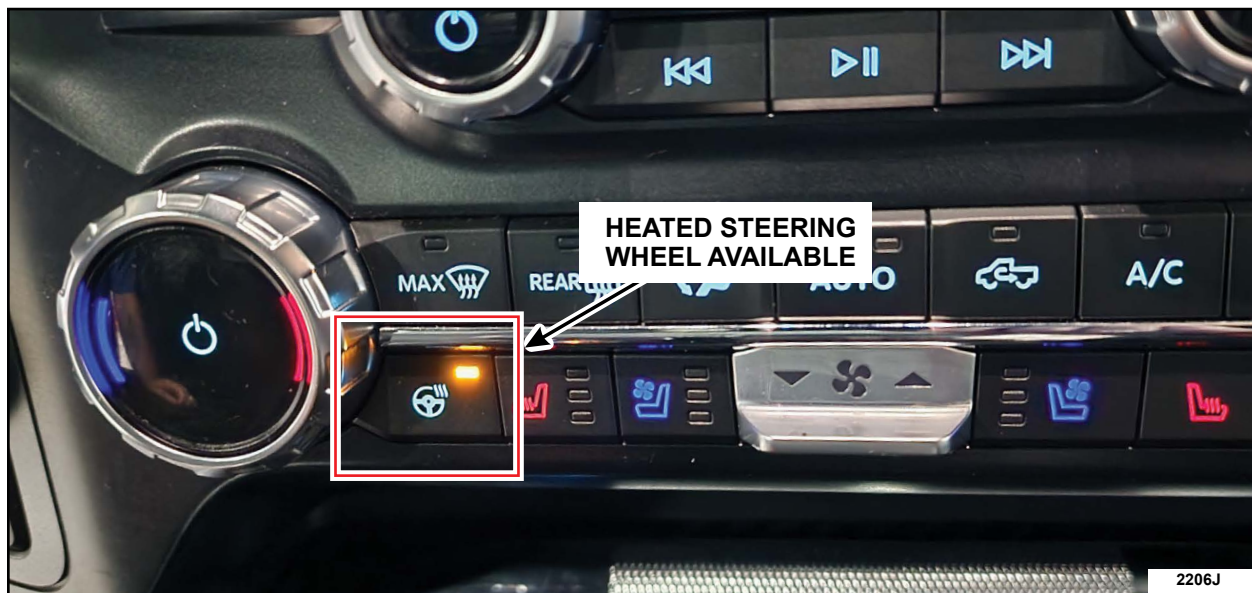

FIGURE 10
11. Start vehicle and verify that the heated steering wheel is functioning. See Figure 10.